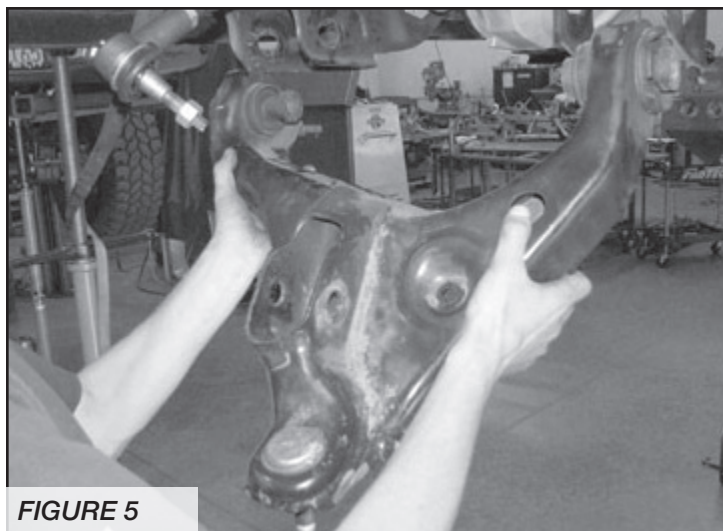

FIGURE 5
11. Remove the lower control arm bolts from the frame pivots and remove the lower control arm from the truck. Save hardware and lower control arm. **SEE FIGURE 5**